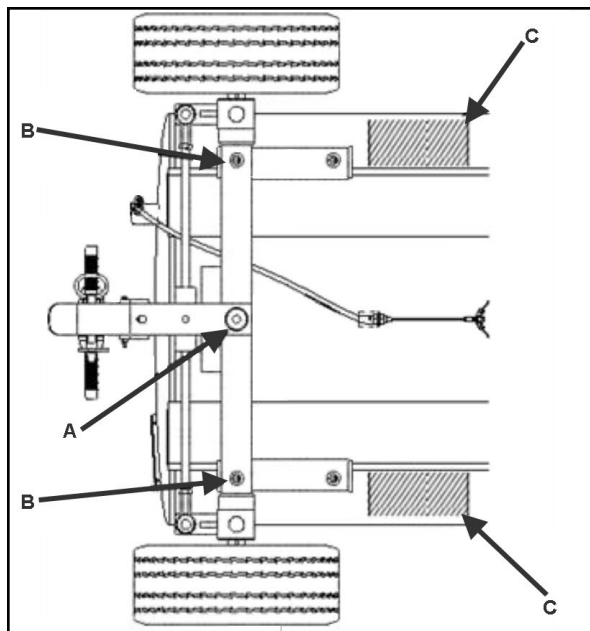

Figure 4-11 Lift Points
To remove the entire Rear Undercarriage assembly, the equipment must have the back end raised. See Sections 4.12, and 4.13 with Figure 4-11.
- Raise equipment with suitable main tenance jack (see Figure 4-11 reference arrow A for jack placement) and allow for 2-inches of space between the wheels and the ground.
- Place cribbing under tank skids to safely support the equipment. (see Figure 4-11, reference points labeled with a C).